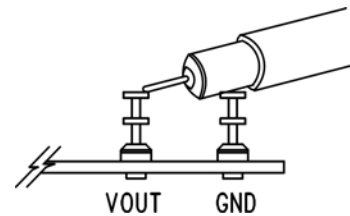

Figure 3. Measuring Input or Output Voltage Ripple
2. When measuring the input or output voltage ripple, care must be taken to avoid a long ground lead on the oscilloscope probe. Measure the input or output voltage ripple by touching the probe tip directly across the V_{IN} or V_{OUT} and GND terminals. See Figure 3 for proper scope probe technique.